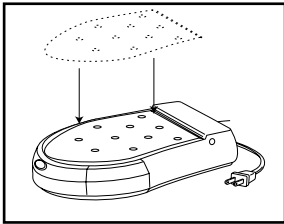

FIGURE 2 - Assembling Heat Resistant Pad
5. Unwrap Power Cord and Water Supply Hose fully. Attach Heat Resistant Pad onto Base (see Figure 2).